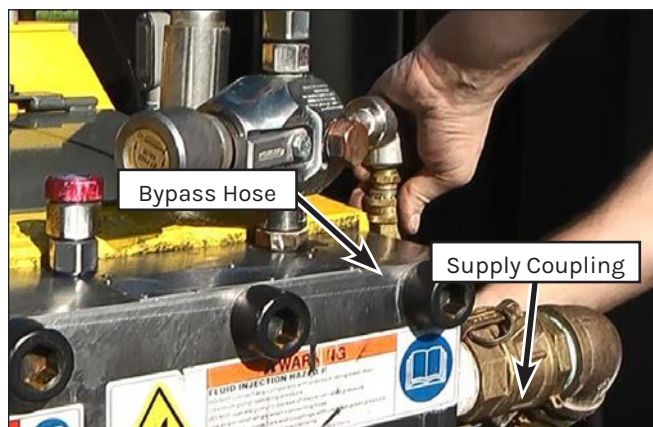

Figure 100: Line Removal.
3. Disconnect the bypass drain hose and the supply coupling from the manifold (Figure 100).